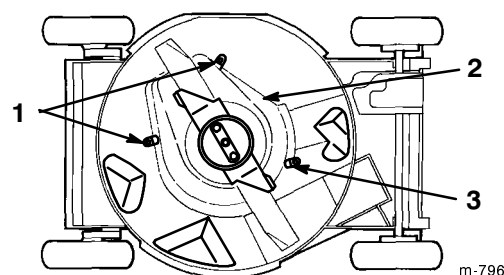

Figure 33
6. Loosen the tabs that secure the BBC shield to the deck by loosening the nuts or the bolts on the tabs (Fig. 33). Rotate the tabs 180° to move them out of the way.